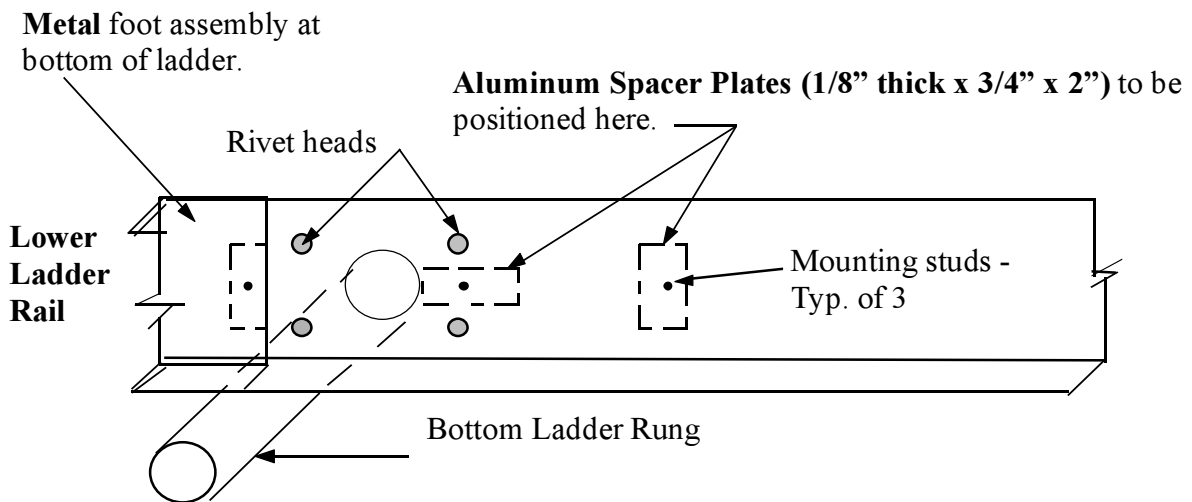

Figure 3-4B
7. Mount the Leveler by passing the mounting studs through the drilled holes in the ladder rail. (See **Figure 3-2B** for Werner and similar and **Figure 3-4B** for Louisville and similar ladders.) For 375 pound ladders place the 2" square washers (provided in kit) over the upper-most mounting studs. Place large round, fender washer